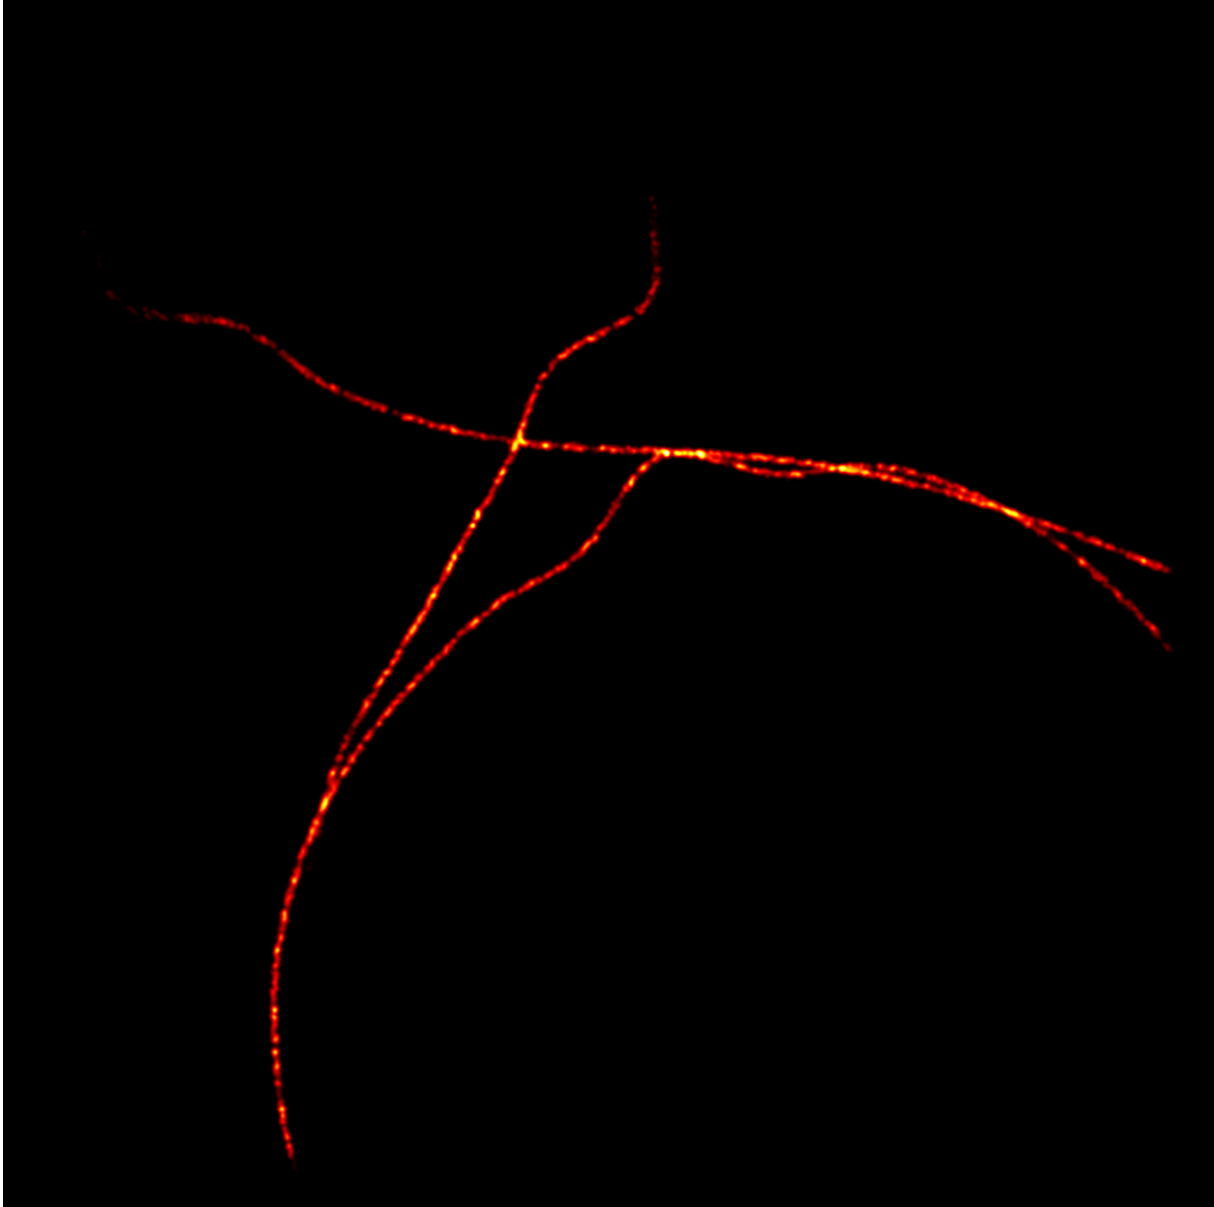

Figure 22 Final rendered results
8. Instead, render the result table using *Gaussian smoothing* and a R^2 range of 0.85-1.0. To do activate *Gaussian* smoothing in the Render tab, activate R^2 selection and set its range to 0.85 – 1.0 in the parameter selection tab and finally press *Render Image* (see fig 22).